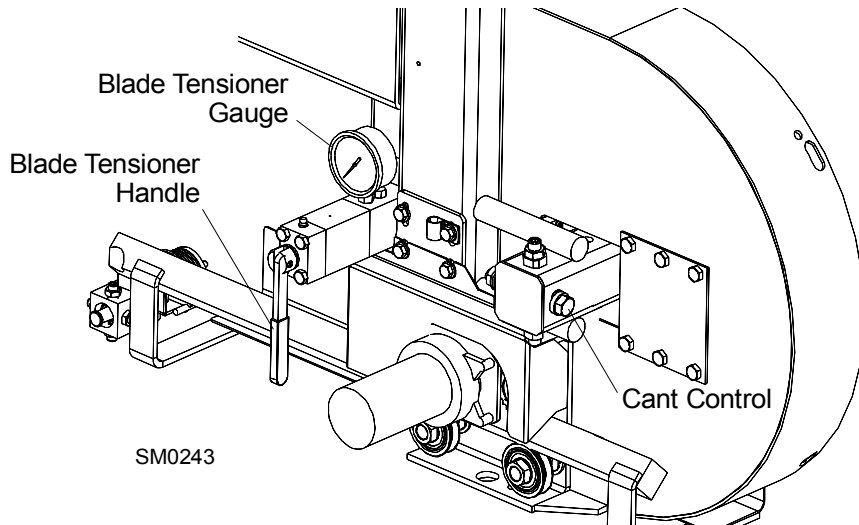

FIG. 3-5
See **Figure 3-5**. The figure below shows setup of the sawmill, the control box and the cable guide columns.
See Figure 3-5. Tension the blade by turning the hydraulic tensioning handle clockwise until the tension gauge indicates the recommended tension.
4. To adjust where the blade travels on the blade wheels, use the cant control shown in **Figure 3-5**.